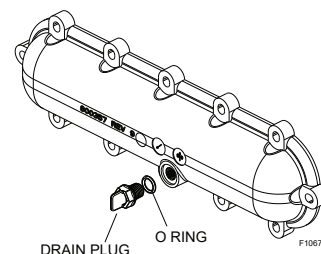
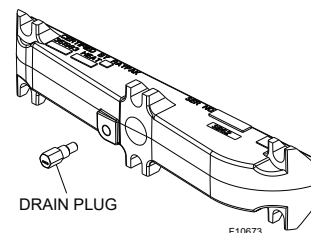

Figure 73. Return Header Drain Plug - Residential ("P" Prefix Model)
Figure 74. Return Header Drain Valve - Commercial ("B" Prefix Model)
2. Remove the ProTek Shield™ Assembly located in the inlet/outlet header, (under water pipes). Remove the heat exchanger inspection panel on the side opposite water piping to gain access to the drain plug on the return header. Open drain plug on return header. See **Figure 73** and **Figure 74**.